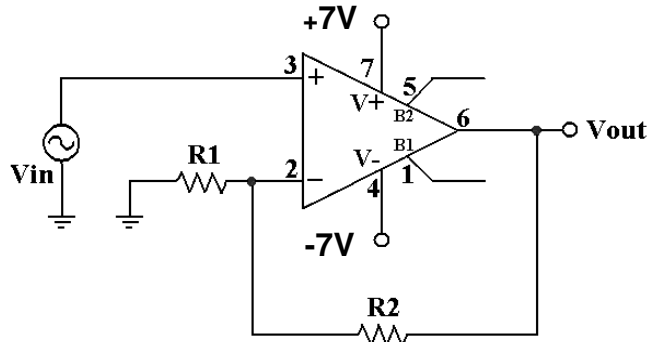
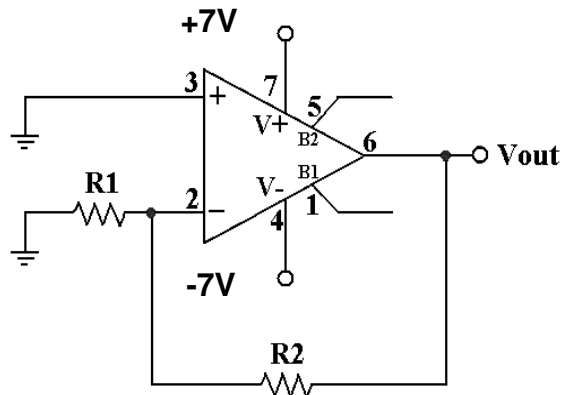

Fig. 2. Non-inverting Amplifier Configuration
Fig. 5. Offset Voltage Measurement Configuration
- For the circuit shown in Fig. 2, derive the equation for the voltage gain at low frequencies (DC gain) assuming that the Opamp is ideal.
- Turn the power supplies off. Connect the circuit as shown in Fig. 5 with the value of R_1 and R_2 you calculated in the prelab for Fig 2. Then make sure that you have powered the chip with the dual power supply. For this measurement, the non-inverting input of the Opamp is grounded. Use the Digital Multimeter to measure the output voltage. This is the output offset voltage, which is a function of the OPAMP internal unbalances.